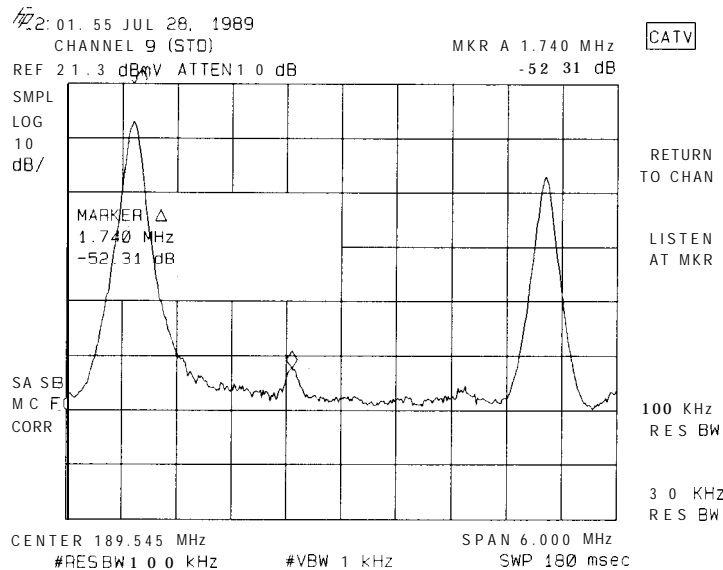

Figure 2-4.
2. After the displayed modulation and noise are reduced, use the knob to position the delta marker on the beat. The frequency and amplitude differences between the peak carrier level and the beat appears in the active function block. See Figure 2-4.